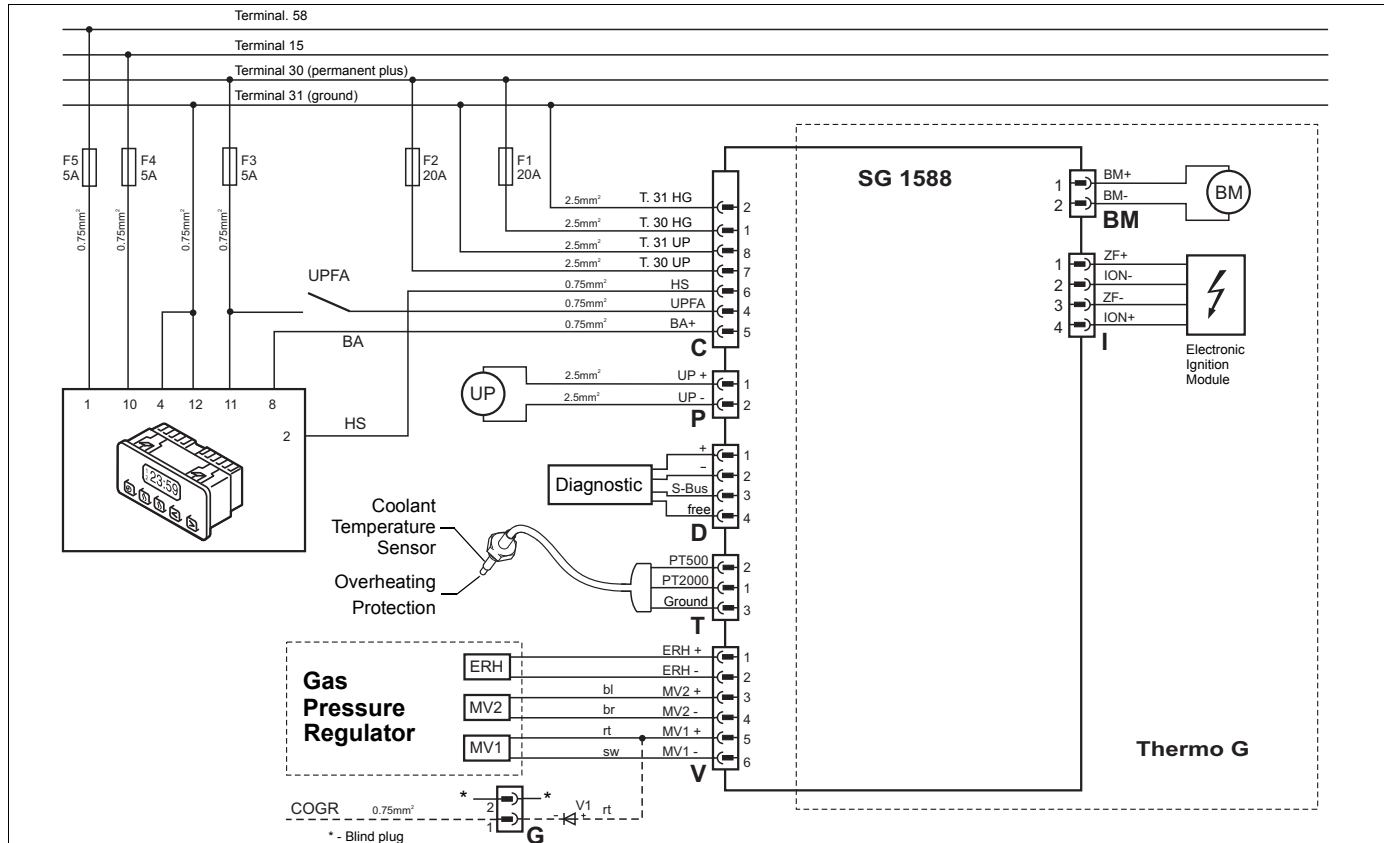

Figure 9: System wiring diagram for water heaters Thermo G with timer, for legend see page 49
- verify all system components are properly connected according to the system wiring diagram in figure 9 or 10, all plugs are secure, all fuses present and undamaged